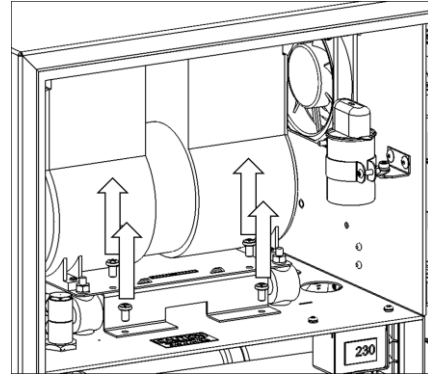

Figure 2: Remove the four screws
2. Remove the four screws with a #3 Pozidrive Screwdriver. See Figure 2.